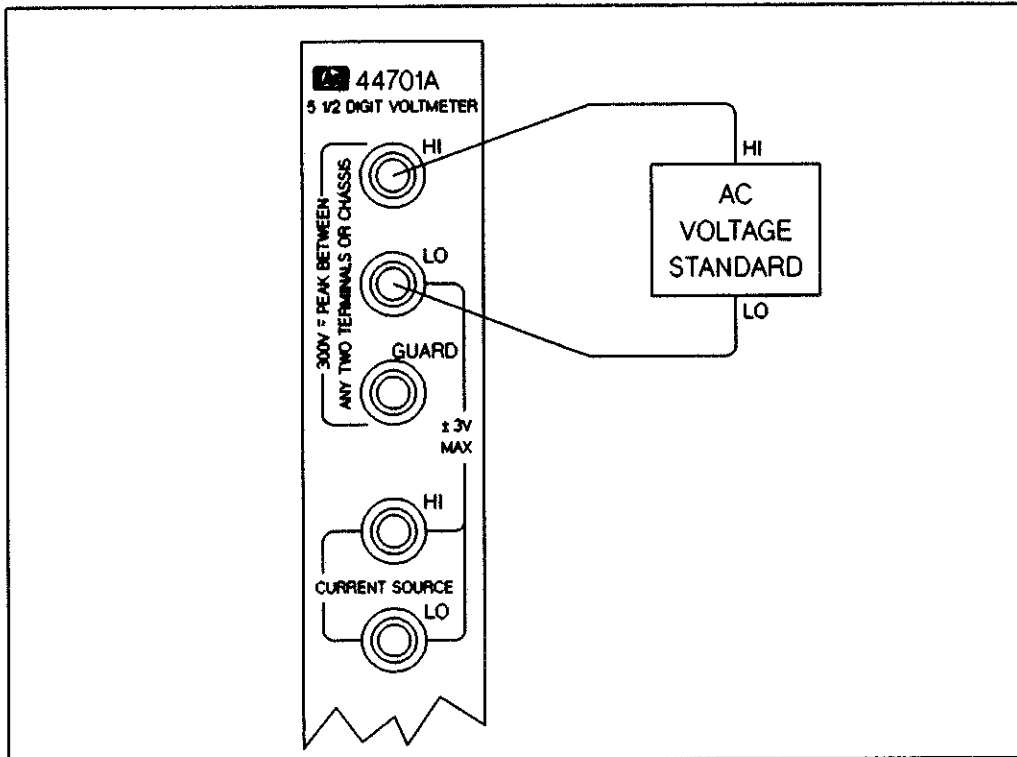

Figure 6-5 AC Voltage Test Connections
3. Set the AC Voltage Standard output to 20 mV at 150 Hz. Then connect the AC Voltage Standard to the rear HI and LO Input Terminals of the HP 44701A Integrating Voltmeter accessory. The connections are shown in Figure 6-5.
26. With the test setup shown in Figure 6-5, set the AC Voltage Standard to output 200 mV at 45 Hz.